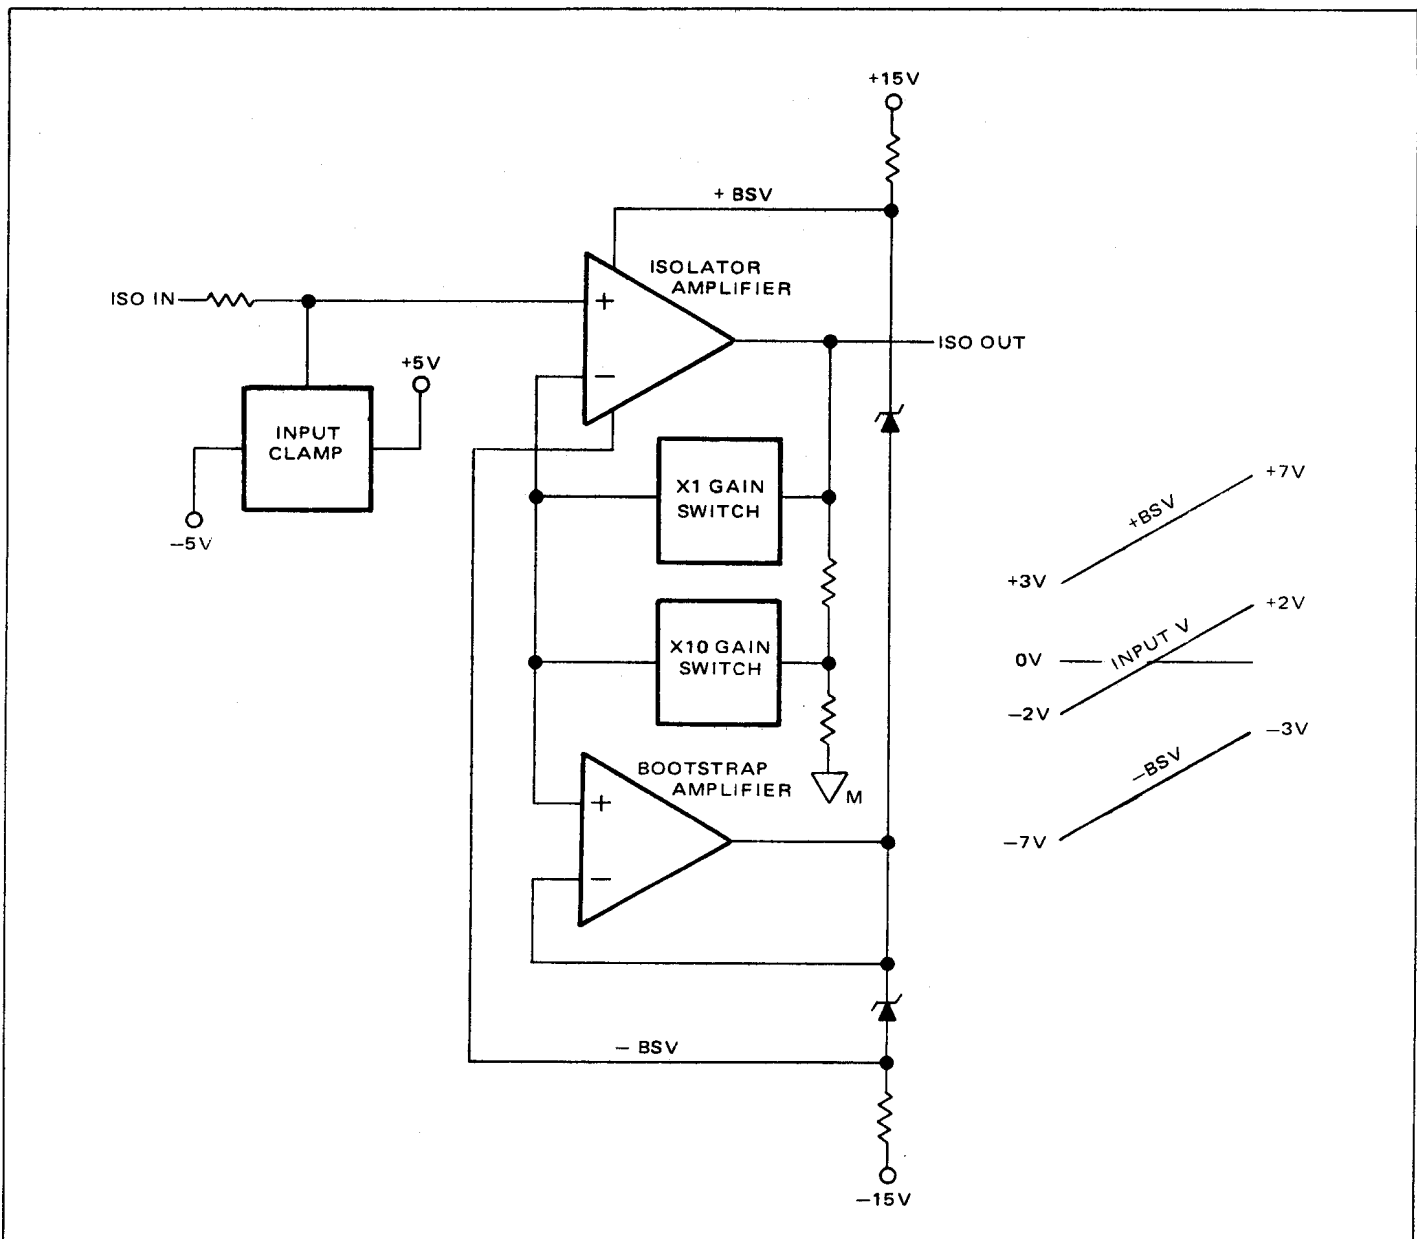

Figure 4.8 - Isolator
4.19 *Isolator.* The isolator, shown in figure 4.8, consists of an input clamp, an isolator amplifier, a bootstrap amplifier, and a gain switching network. The various pre-scaled and processed input measurement voltages are applied to the input of the isolator which is clamped to pre-